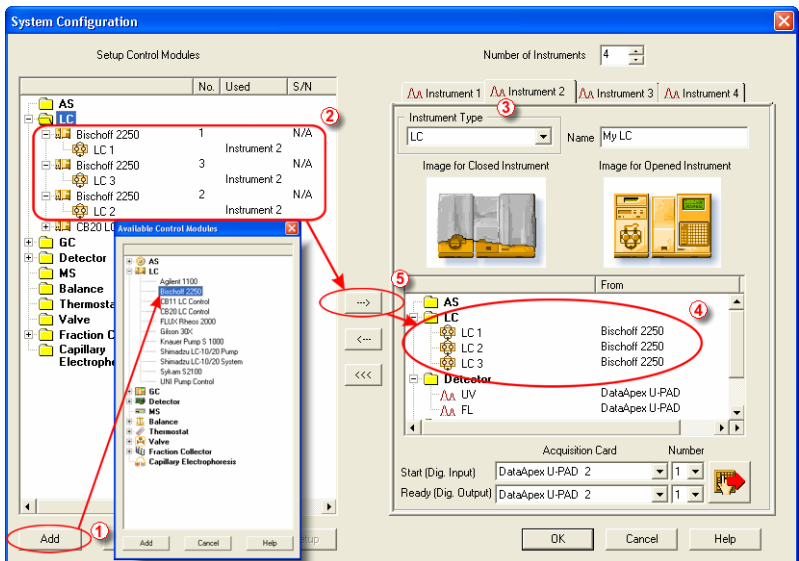

Fig. 5. System Configuration
- In the **System Configuration** dialog press the **Add** button (① in **Fig. 5**, pg. 7) to invoke the **Available Control Modules** dialog.
Note: If the gradient elution with several solvents will be used, the **Bischoff 2250** pump has to be added several times, once for each pump. **Fig. 5** shows the use of three Bischoff pumps.